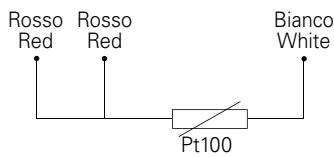

Fig. 1
- three-wire connection to IEC 751 (see Fig. 1);